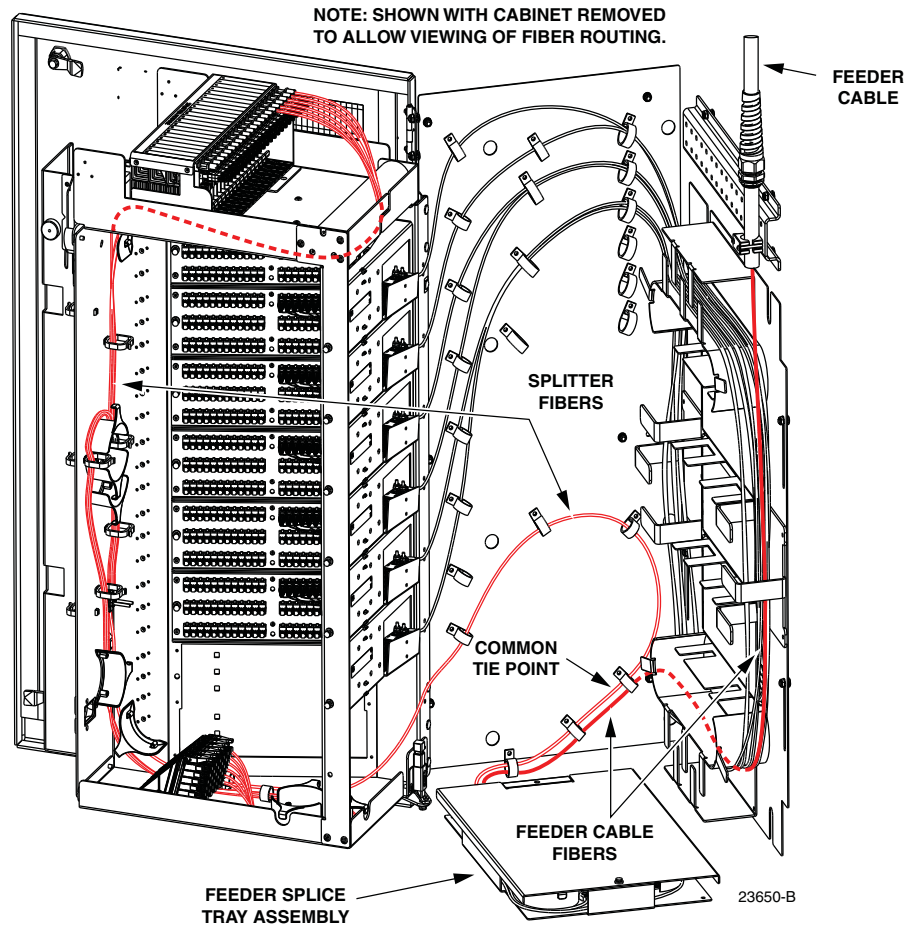

Figure 26. Feeder Splice Tray and Feeder/Splitter Fiber Routing
1. Locate the feeder splice tray which is mounted at the bottom of the cabinet, as shown in Figure 26, and locate the splitter fibers which are routed to the feeder splice tray.